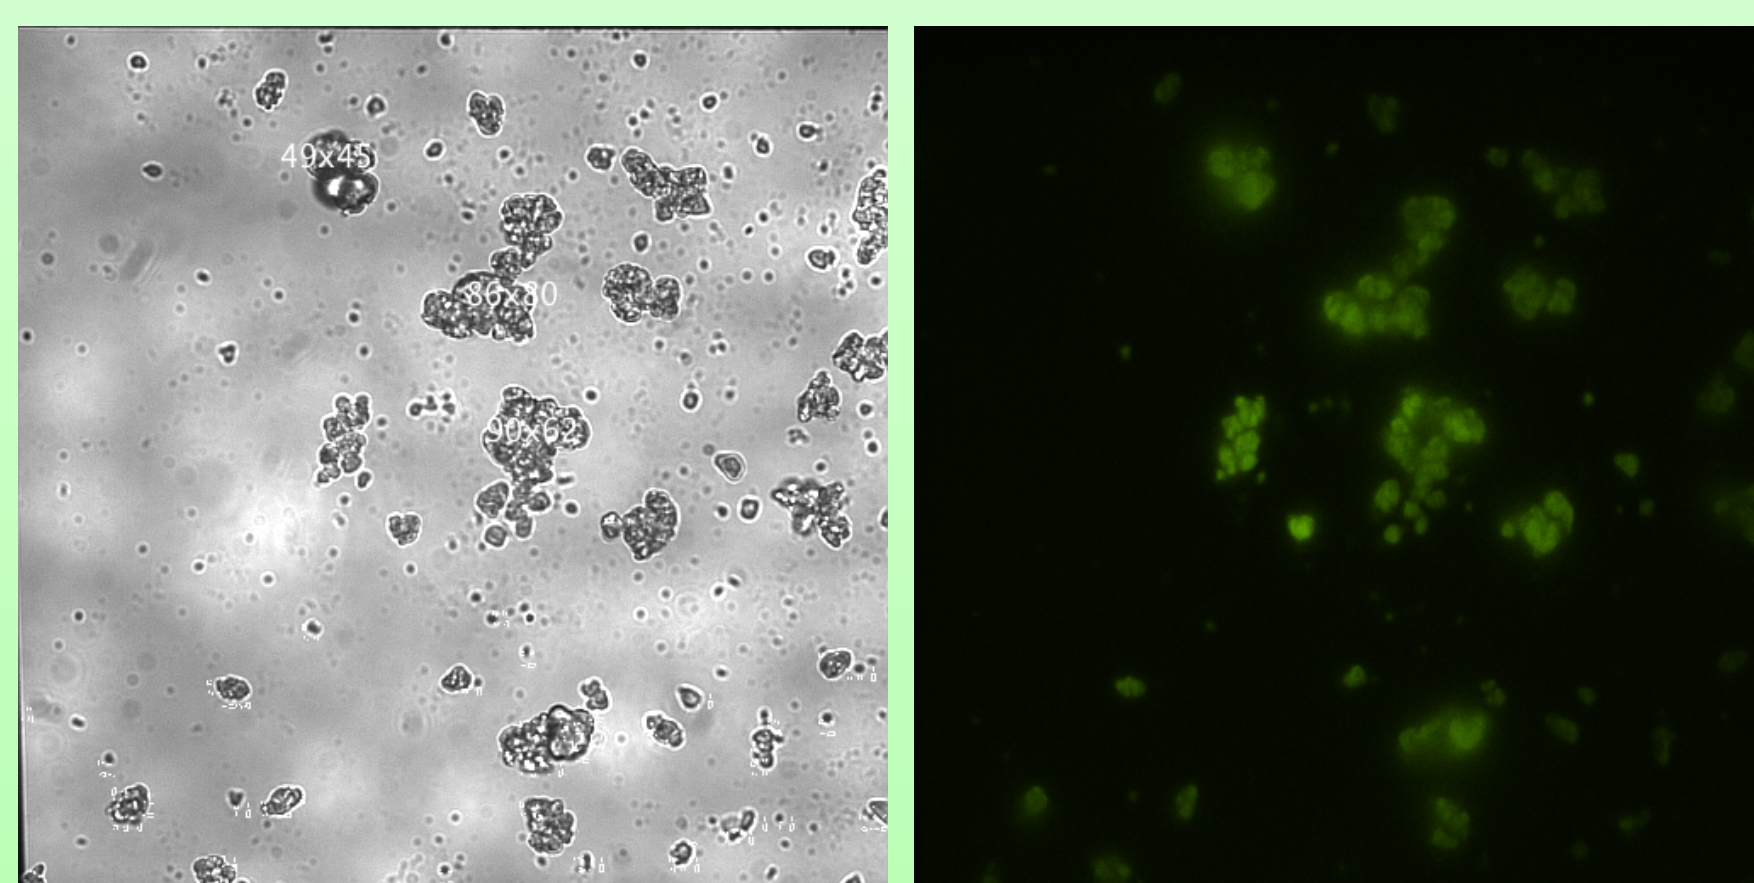

Figure 2: White (left) and green (right) fluorescence microscopy images of lignin particles.
- The use of fluorescence microscopy for imaging lignin content and composition is made easier by the natural fluorescence of lignin, as shown in Figure 2.